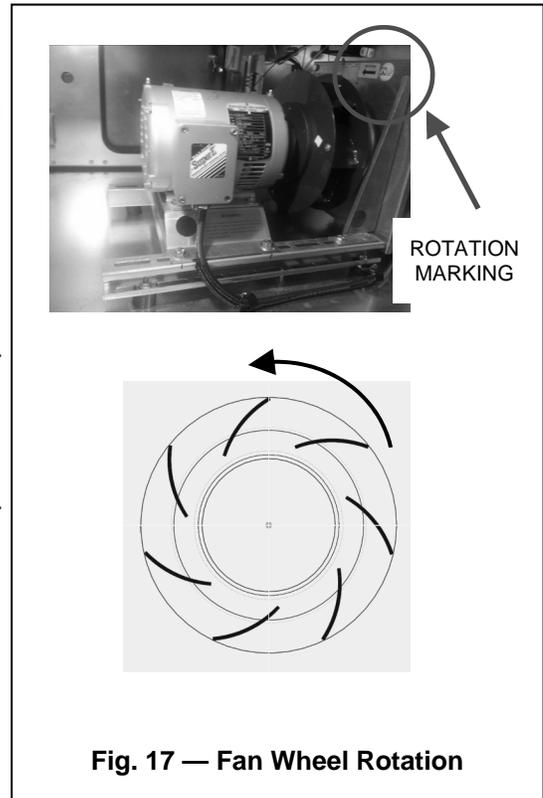

Fig. 17 — Fan Wheel Rotation
4. Check direction of rotation (see Fig. 17). Arrow on drive side of fan housing indicates correct direction of rotation.